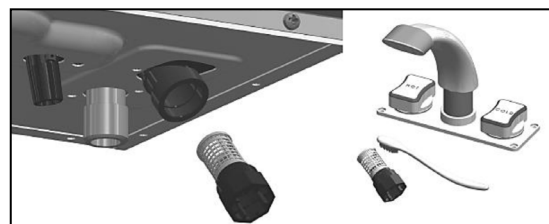

Figure 55 - Draining the Water Heater; Cleaning the Filter
5. Remove the cold water inlet filter. Then clean it with a toothbrush and clean running water. See Figure 55.